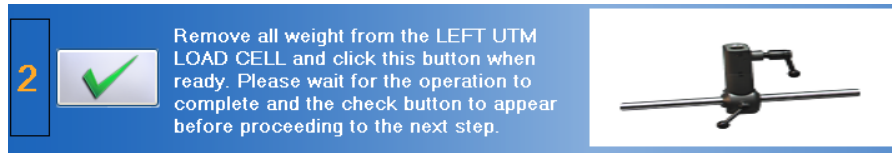

Figure 10-22. UTM - Set the Zero Point
Step 2. Click on  to set the zero point (Figure 10-22).